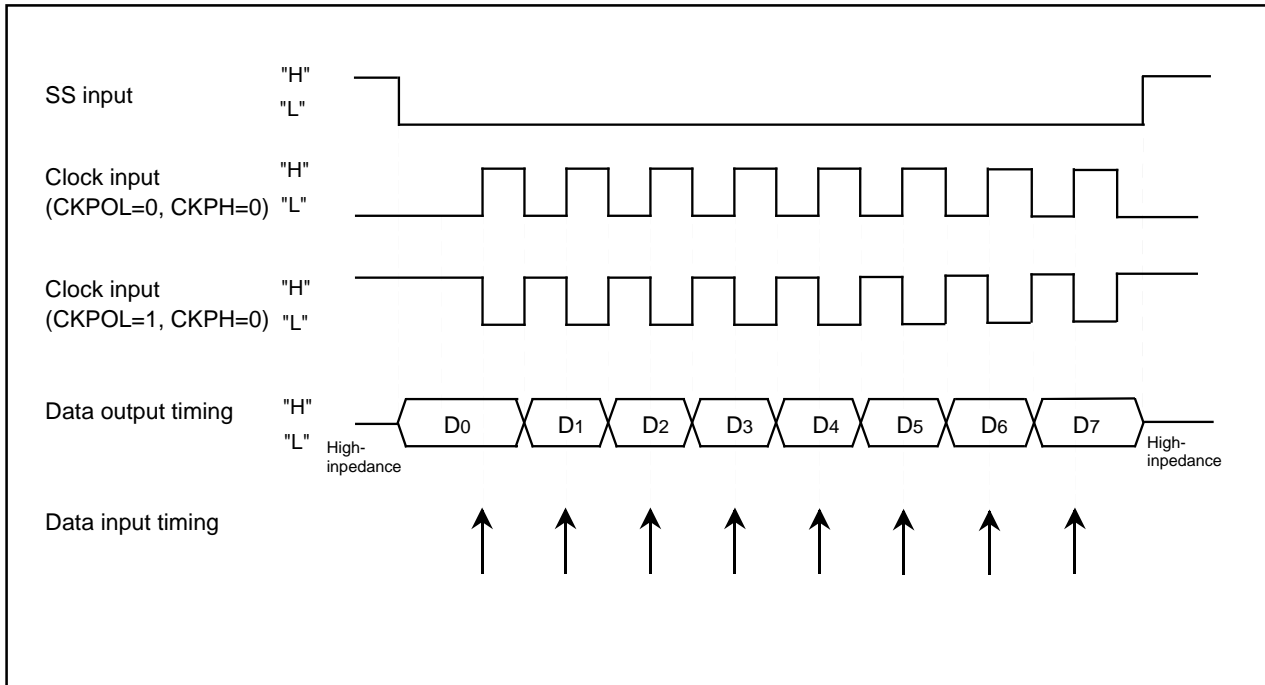

Figure 20.9 The transmission and reception timing (CKPH=1) in slave mode (external clock)
- With "1" for bit 1 (CKPH) of UARTi special mode register 3 (addresses 032516 and 02F516 [i = 3 or 4]), when an SSi input pin is H level, output data is high impedance. When an SSi input pin is L level, the first data is output. After that, serial transmission is synchronized with the clock. Figure 20.9 shows the timing.